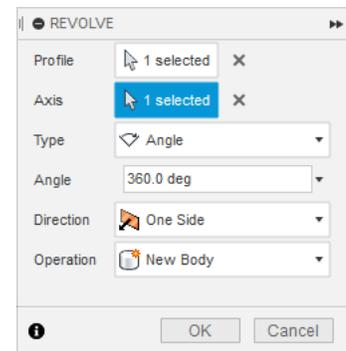

Fig. 9
Step 14. In the Revolve panel set, **Fig. 9**